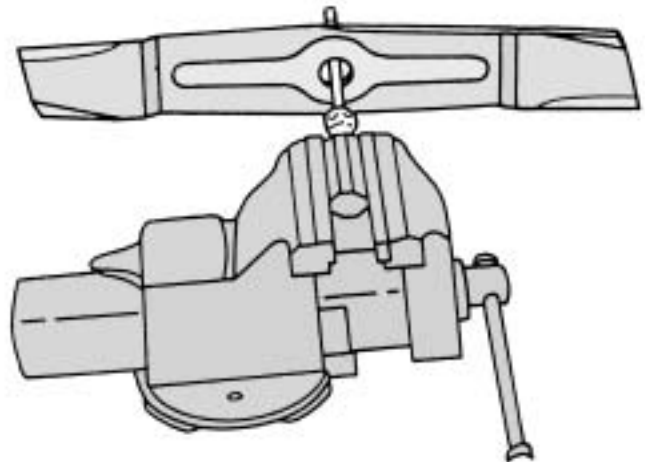

Figure 22
- After sharpening the blade, hang it on the balancer (Figure 22) and check the level. If one side of the blade tips lower, sharpen that side a little at a time until the blade is balanced.